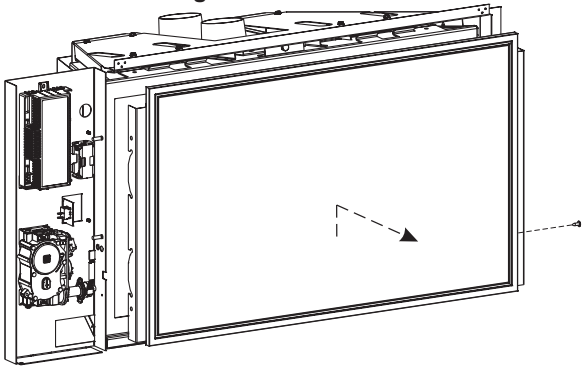

Figure 12
1. Remove the screw securing the screen assembly to the insert. Lift the assembly up and pull out to remove it from the insert. See Figure 12.